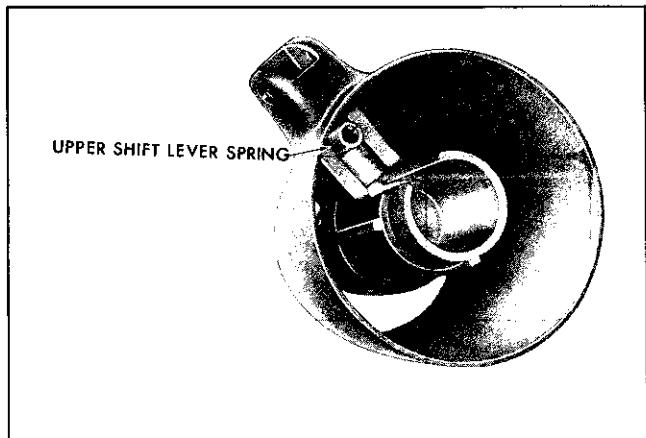

Fig. 9-8 Upper Shift Lever Spring
15. If shift bowl, shift lever spring or shift lever is to be replaced, remove shift bowl from steering column jacket. The shift lever or spring can be replaced by driving out the shift lever pivot pin, removing the shift lever. The shift lever spring can then be pried out of shift bowl (Fig. 9-8). Do not reuse shift lever spring.
1. Press new upper shift lever spring into bowl pocket (Fig. 9-8), and install shift lever by driving pivot pin back into shift bowl if shift bowl was replaced.